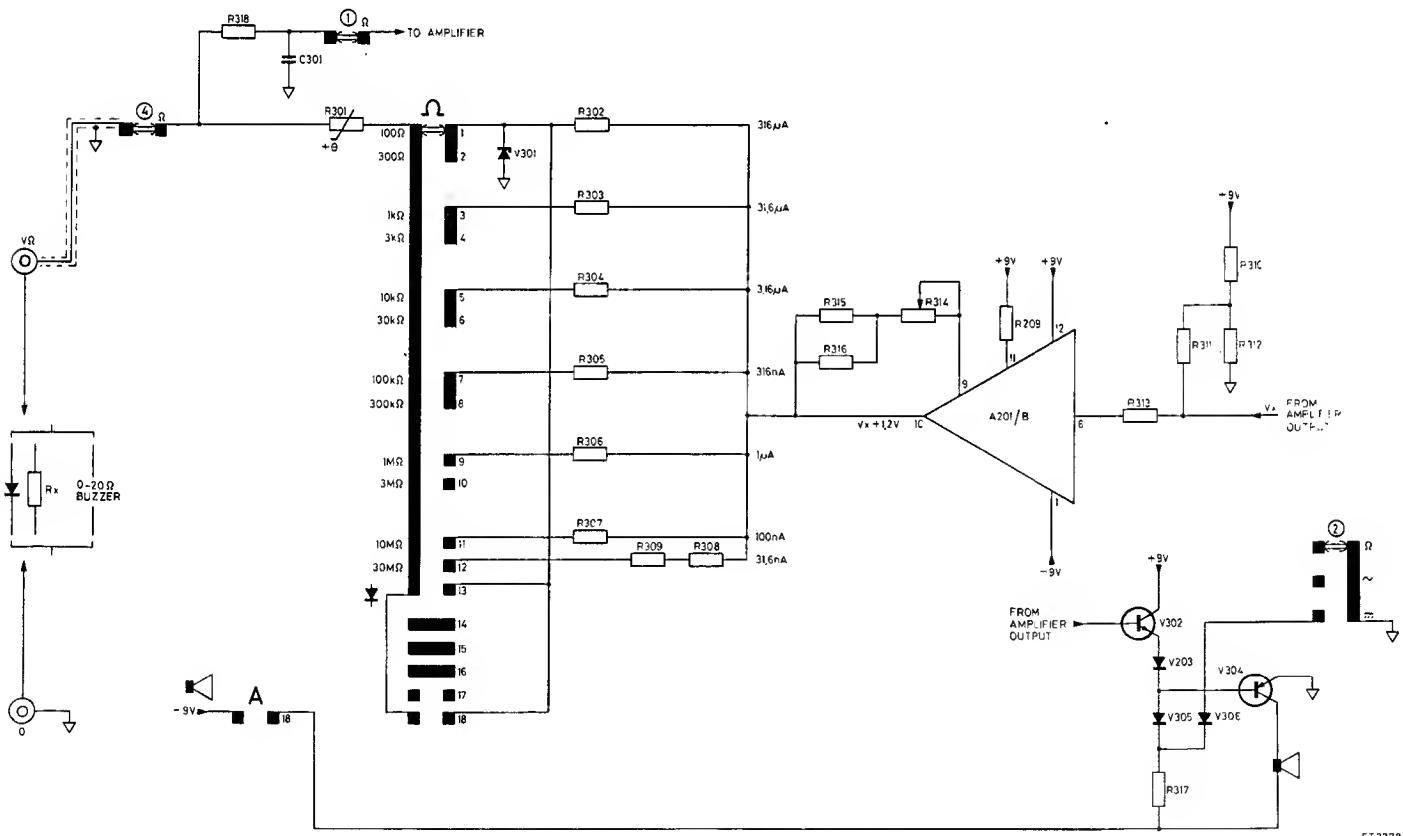

Fig. 12. Ω , $\frac{1}{2}$, BUZZER current source
4.3.3.2. Ω , $\frac{1}{2}$ and BUZZER current source (Fig. 12)